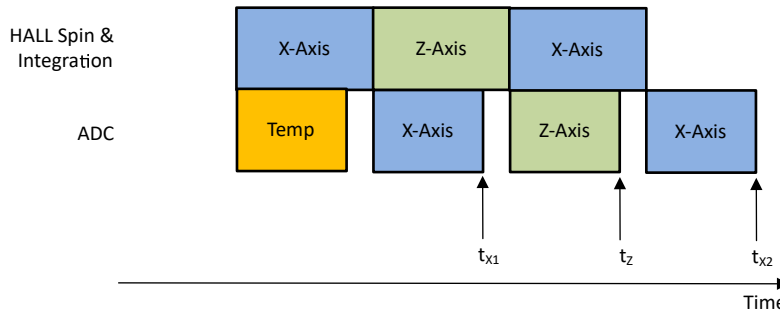

Figure 8-3. XZX Magnetic Field Conversion
In absolute angle measurement, application sensor data from multiple axes are required to calculate an accurate angle. The magnetic field data collected at different times through the same signal chain introduces error in angle calculation. The TMAG5273 offers pseudo-simultaneous sampling data collection modes to eliminate this error. Figure 8-3 shows an example where MAG_CH_EN is set at 1011b to collect XZX data. Equation 18 shows that the time stamps for the X and Z sensor data are the same.
- t_{x1} , t_z , t_{x2} are time stamps for X, Z, X sensor data completion as defined in Figure 8-3.